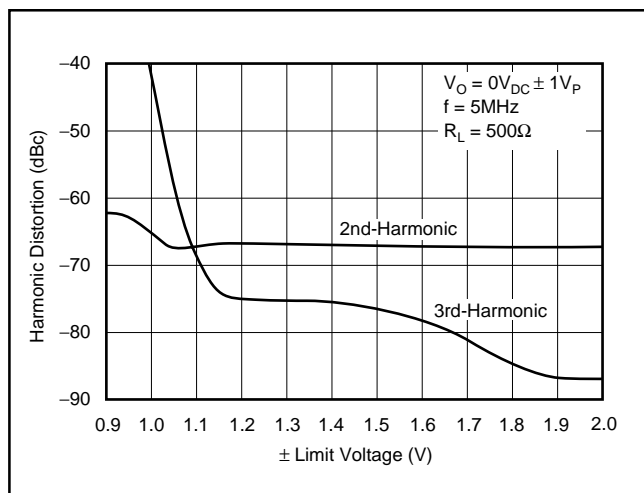

FIGURE 13. Harmonic Distortion Near Limit Voltages.
- The limiter offset voltage only slightly degrades limiter accuracy. Figure 13 shows how the limiters affect distortion performance. Virtually no degradation in linearity is observed for output voltage swinging right up to the limiter voltages. In this plot a fixed $\pm 1V$ output swing is driven while the limiter voltages are reduced symmetrically. Until the limiters are reduced to $\pm 1.1V$, little distortion degradation is observed.